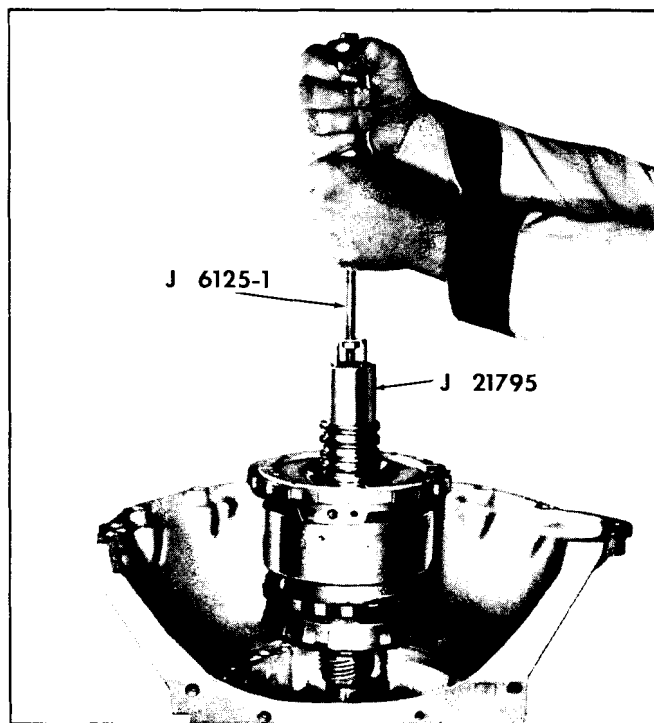

Fig. 7E-76 Removing Entire Gear Unit Assembly
19. Remove rear unit selective washer from transmission case (Fig. 7E-77).